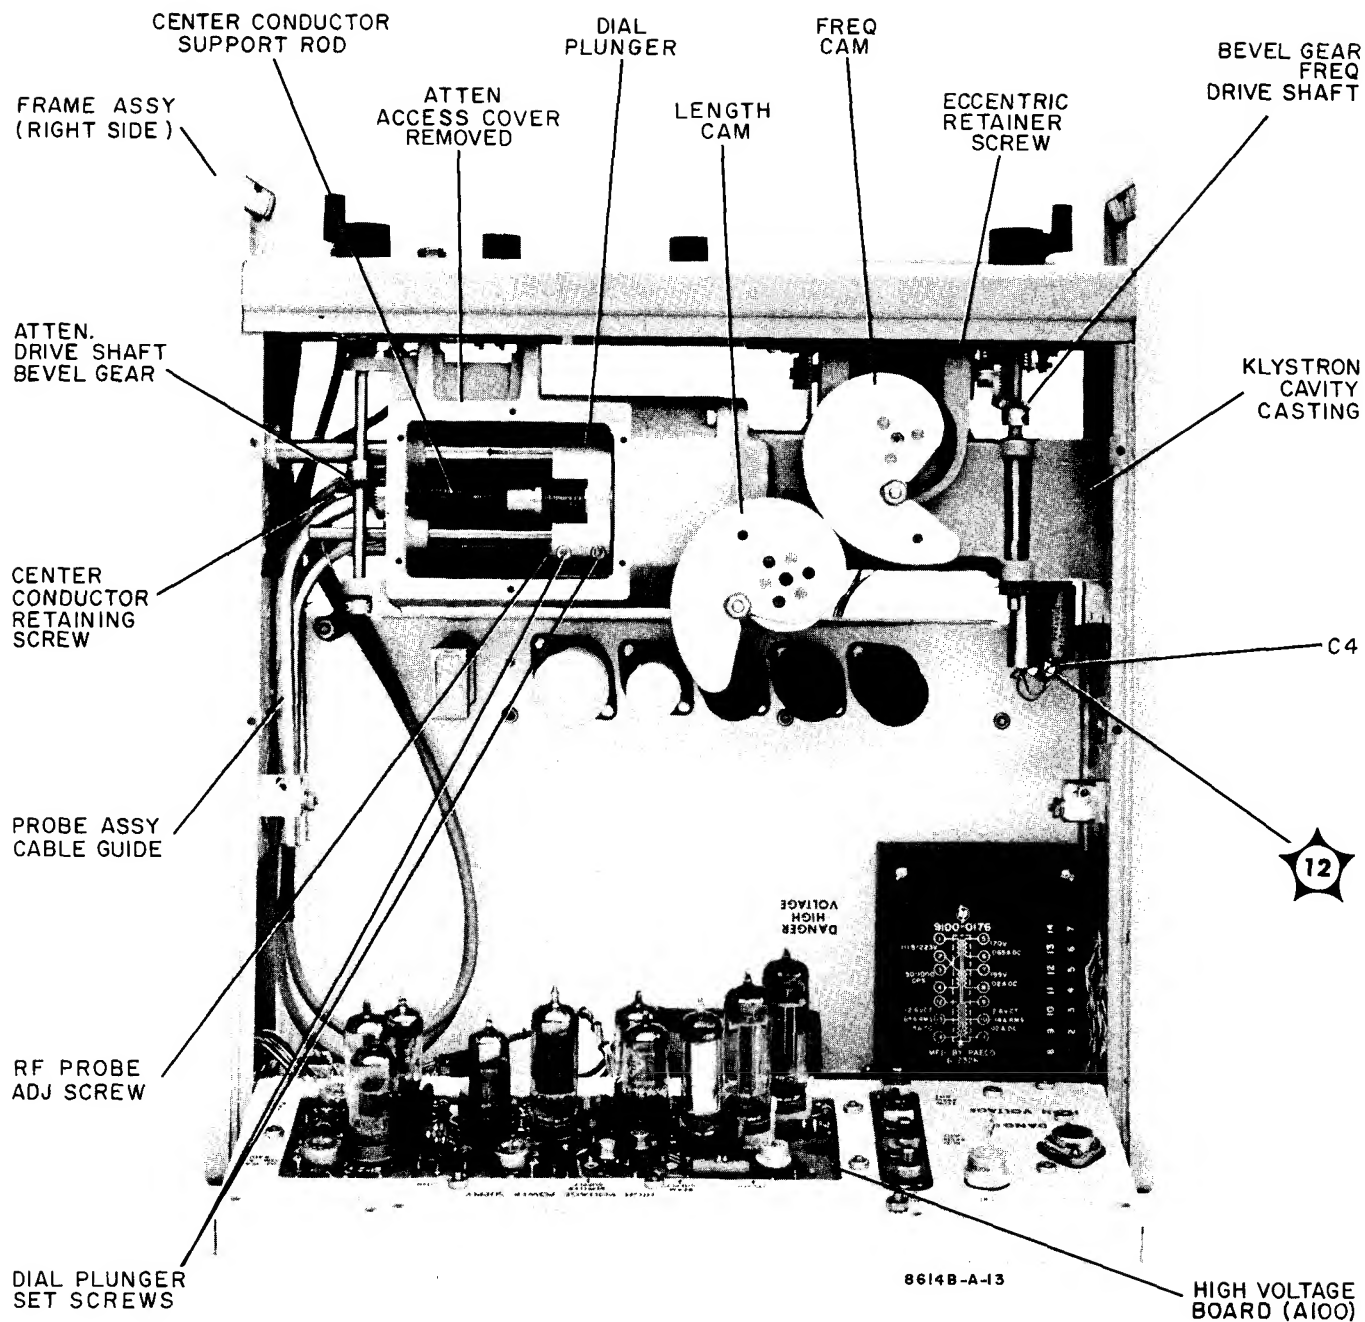

Figure 5-8. Model 8614B Top View, Cover Removed
- b. Remove top cover and attenuator access cover (see Figure 5-8).
- e. Remove retaining screw from defective probe in klystron cavity casting and remove from casting (see Figure 5-8).
- Turn FREQUENCY (MC) to approximately the middle of the frequency band.
- Orient Length Cam to Frequency Cam as shown in Figure 5-8.
a. Connect a Clip-On Milliammeter, such as CP Model 428A, to wire on center feed-through capacitor, C4 (wht/orn/vio wire, see Figure 5-8).
b. Connect crystal detector/oscilloscope combination to VARIABLE RF OUTPUT and set FREQUENCY (MC) to 1650 MC (3050 MC for 8616B).
f. If clamping action referred to in step c occurs before VARIABLE RF OUTPUT begins to decrease and before beam current exceeds 28 ma, go to next procedure. If clamping action does not occur before VARIABLE RF OUTPUT begins to decrease or before beam current exceeds 28 ma, readjust R420 as in step d above. Using a DC Voltmeter, such as the Φ Model 405B with a floating input, measure voltage difference between klystron cathode and control grid (see Figure 5-8). Replace CR404 with a zener diode whose breakdown voltage is as close to, but slightly less than, the measured voltage minus 0.6 volts (see Figure 5-4).
c. Refer to graph, Figure 5-10. The horizontal axis represents the measured frequency change from step b, the vertical axis indicates the dial corrective setting. For example, if the difference between dial settings (step b) is 1354 Mc, the corrective setting for the dial as found on the graph is 990 Mc. To make correction, set frequency dial to 1000 Mc, loosen the two setscrews that clamp dial plunger to rack, hold dial plunger stationary, and set dial to 990 Mc. Tighten two setscrews (see Figure 5-8).
i. If frequency dial reading errors are greater than ± 5 Mc (± 10 Mc for 8616B), shifting the dial may bring all errors within specification. If shifting dial will not sufficiently correct errors, it may be necessary to shift position of center conductor support rod (see Figure 5-8). The center conductor is notched at end closest to right side of instrument and may be loosened and then adjusted "in" or "out" of klystron cavity. Notch or scratch center conductor rod so that original position may always be known. If overall frequency error was positive, adjust center conductor toward right side of instrument. If overall error was negative, adjust center conductor toward left side of instrument. When adjusting center conductor position, never change by more than about 20 thousandths of an inch at a time.